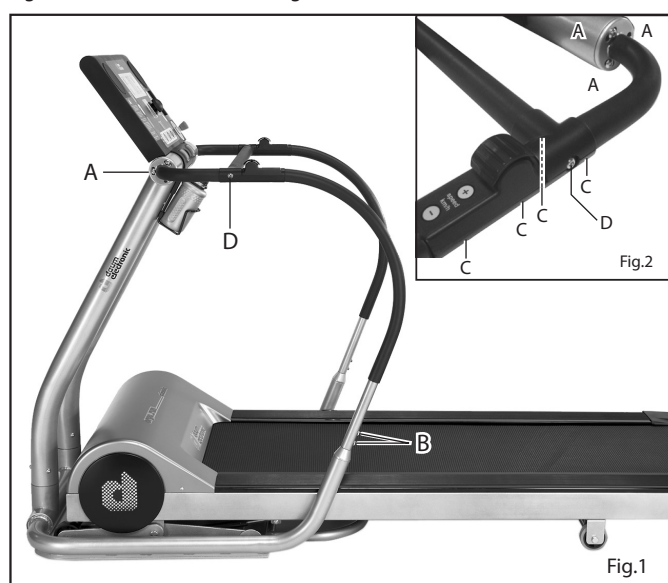

Fig.1
- remove the 5 screws (**A** and **B**) on the left and right handrails (Fig.1). 3 screws (**A**) top and 2 screws (**B**) bottom.